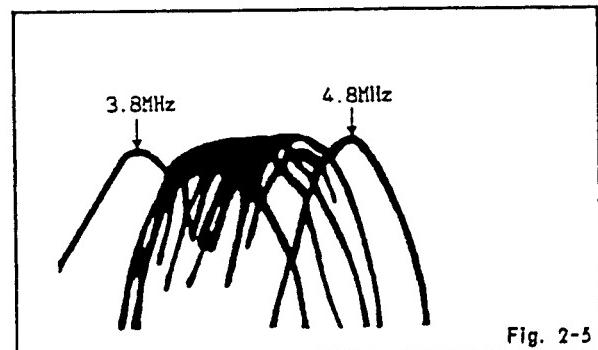

Fig. 2-5
2. Connect TP4003 to the input terminal on the spectrum analyzer, then adjust 3.8MHz and 4.8MHz as shown in Fig. 2-5 with VR4005 and VR4006.
2. Connect TP8003 to the input terminal on the spectrum analyzer, then adjust 3.8MHz and 4.8MHz as shown in Fig. 2-5 with VR8005 and VR8006.